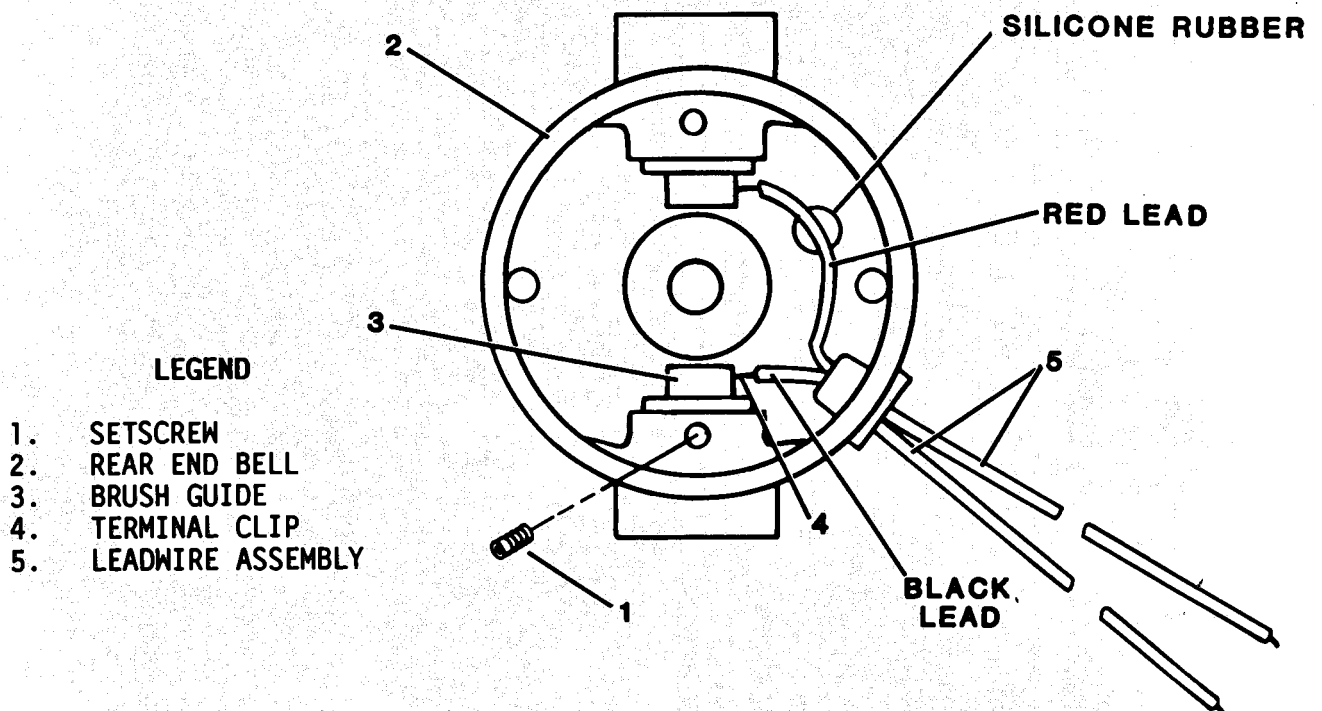

Figure 6-6. Replacing Broken Brush Guide
(2) Replacing Broken Brush Guides.
(a) Remove setscrews (1, figure 6-6) from rear end bell (2) to release brush guides (3).
(g) Make sure leadwire assembly is positioned as shown in figure 6-6.